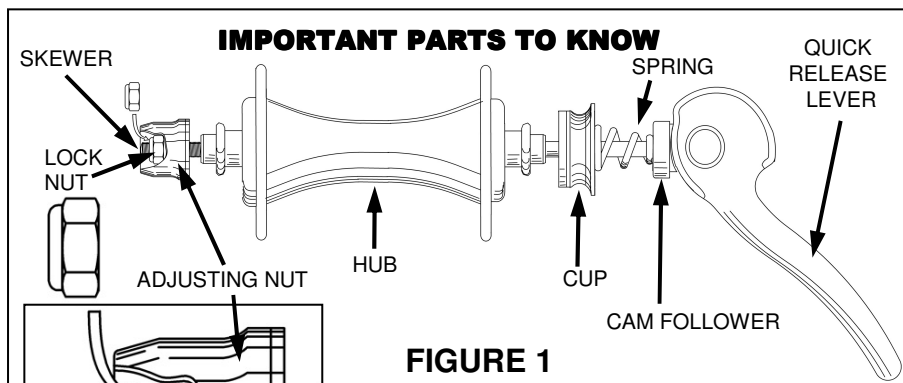

FIGURE 1
1. Install the Skewer through the wheel Hub as shown in Figure 1 after first removing the Adjusting Nut and Lock Nut.